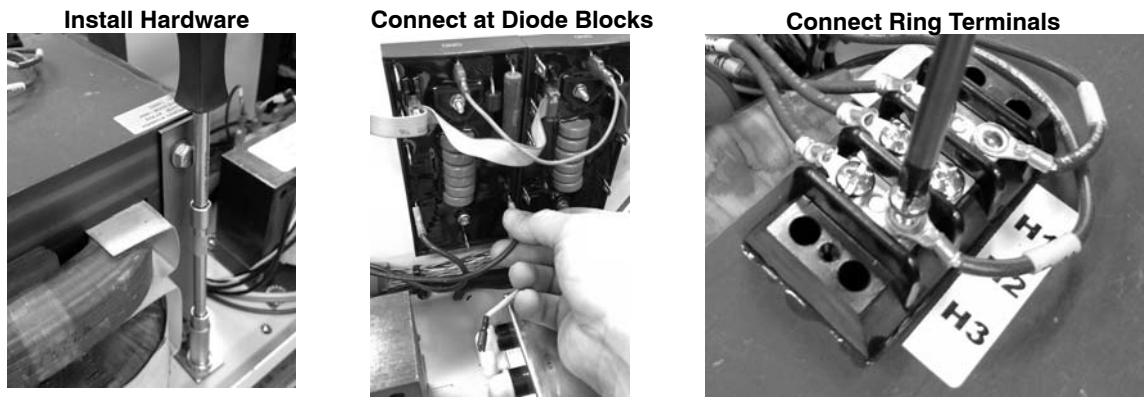

Figure 10 Installing Transformer
1. See Figure 10. Reinstall transformer.